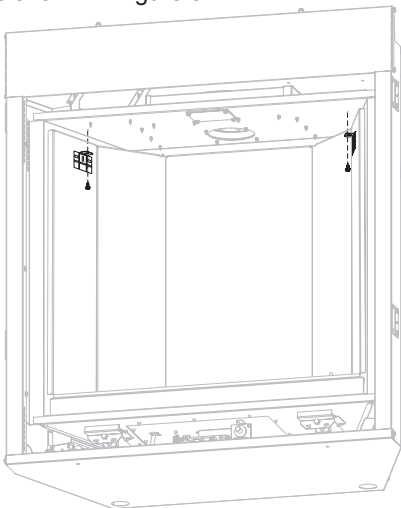

Figure 8
5. Remove the two screws securing the liner brackets to the firebox as shown in Figure 8.